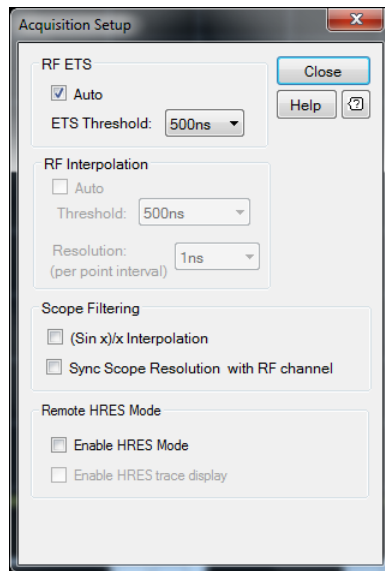

Figure 2-29 Acquisition Setup dialog
- 2 The Acquisition Setup dialog is displayed as shown in Figure 2-29. Select the **Auto** check box to enable the auto-ETS feature and select the desired ETS threshold. Select the **(Sin x)/x Interpolation** check box to allow 1 GHz analog bandwidth verification.